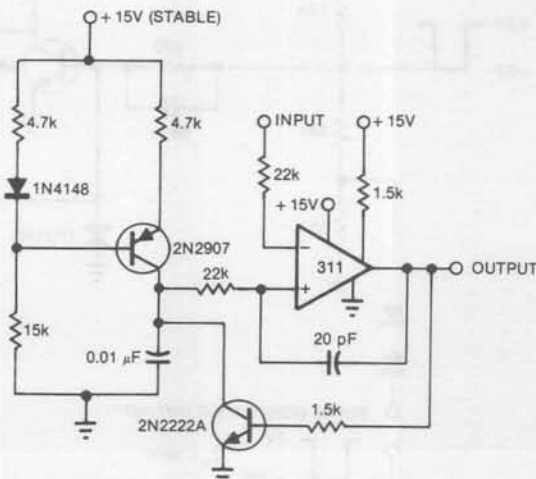

Fig 6—This V/F converter's maximum operating frequency is limited by which component?
8. The circuit displayed in Fig 6 is a voltage-to-frequency converter. What is this circuit's chief limitation on maximum operating frequency? If you snip out the 20-pF capacitor, what would happen? Why? Are there any other significant considerations involved in setting up and using this circuit?